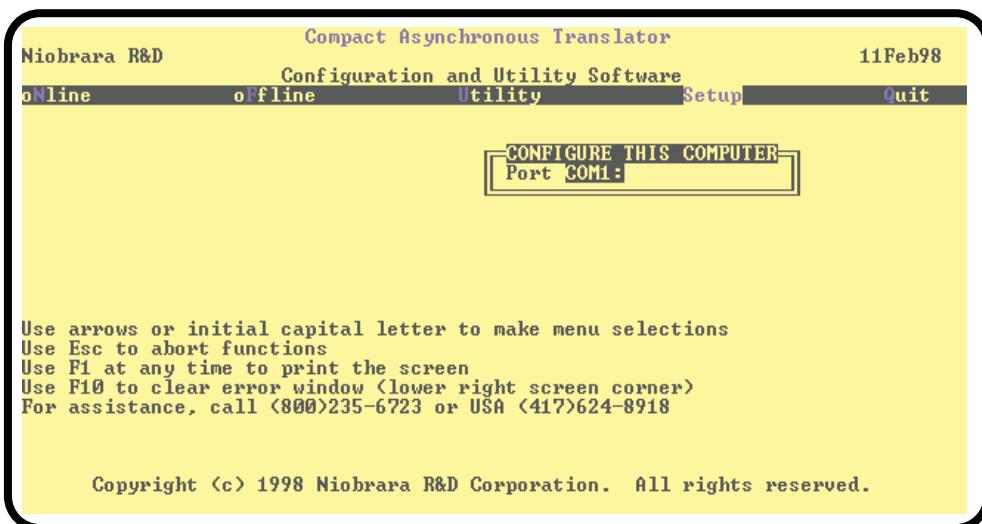

Figure 2-2 CATSW Serial Port Configuration Screen
- 5 Press S for Serial Port. The screen should appear as in Figure 2-2.